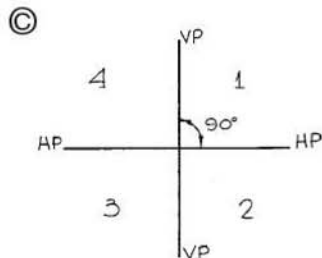

FIGURE 1
The strut is attached to the backbone by means of a swivel. I used a Nylok nut to secure the swivel to the backbone. This allows a nice firm connection with a little freedom so that the strut can swing out of the way for storage. In use, the foot of the strut sits in a 5mm dimple that I drilled in the casting. The parts of the strut are shown in fig 1.
Plane (HP) onto which the front elevation and plan views are projected respectively (fig 1).